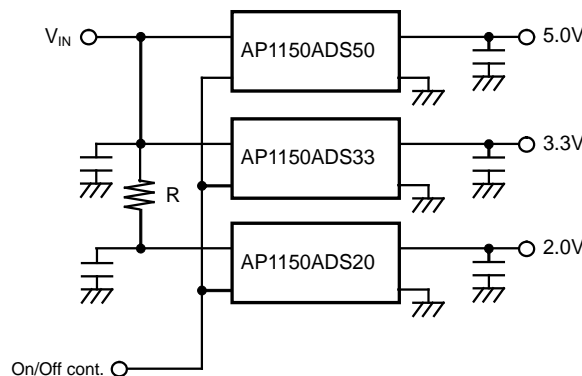

Figure 4. Parallel-Connected On/Off Control
The Figure 4 is multiple regulators being controlled by a single On/Off control signal. There is fear of overheating, because the power loss of the low voltage side IC (AP1150ADS20) is large. The series resistor (R) is put in the input line of the low output voltage regulator in order to prevent over-dissipation. The voltage dropped across the resistor reduces the large input-to-output voltage across the regulator, reducing the power dissipation in the device. When the thermal sensor works, a decrease of the output voltage, oscillation, etc. may be observed.